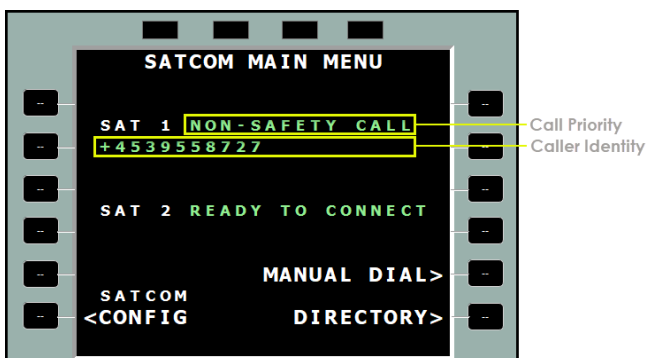

Figure 7-14: MCDU - SATCOM Main Menu - Incoming call - Unknown caller identity
2. Visually - Call information displayed on the SATCOM->MCDU page (Figure 7-14).